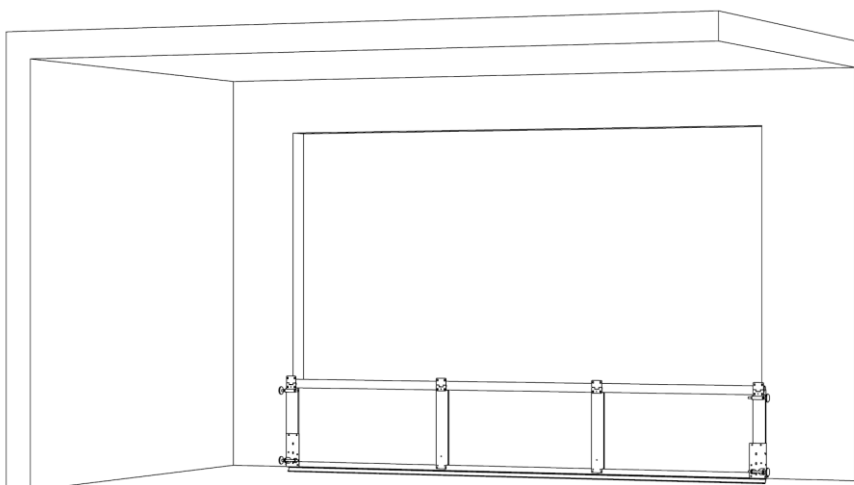

Figure 11
5. Stand panel upright behind door opening ensure it is central with 25mm over lap each side. (Figure 11)